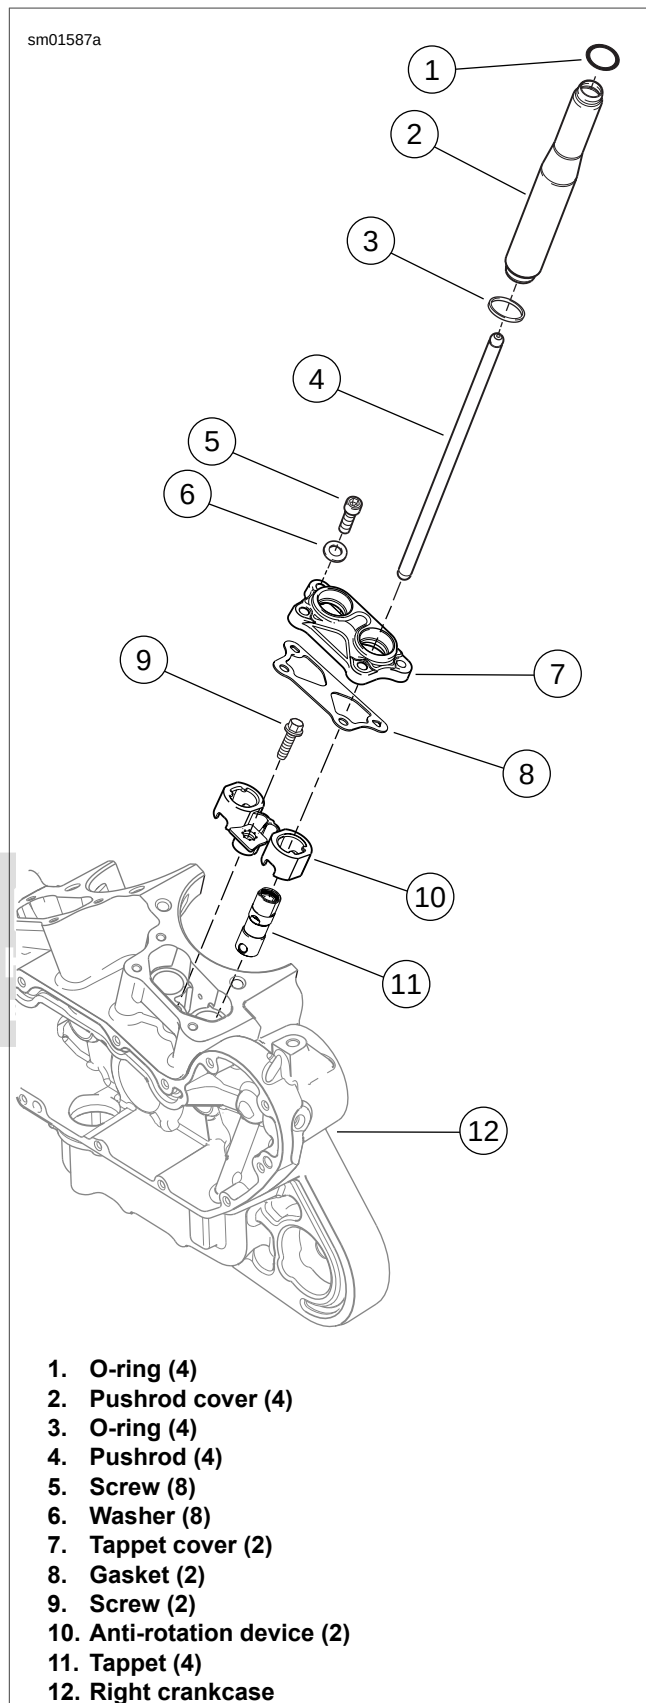

Figure 3-45. Middle Valve Train Components
- See Figure 3-45. Remove pushrod covers (2), O-rings (1, 3) and pushrods (4). Mark the location and orientation (top and bottom) of each pushrod. Discard O-rings.
- Remove socket screws (5) and washers (6). Remove tappet cover (7) and gasket (8). Discard gasket.